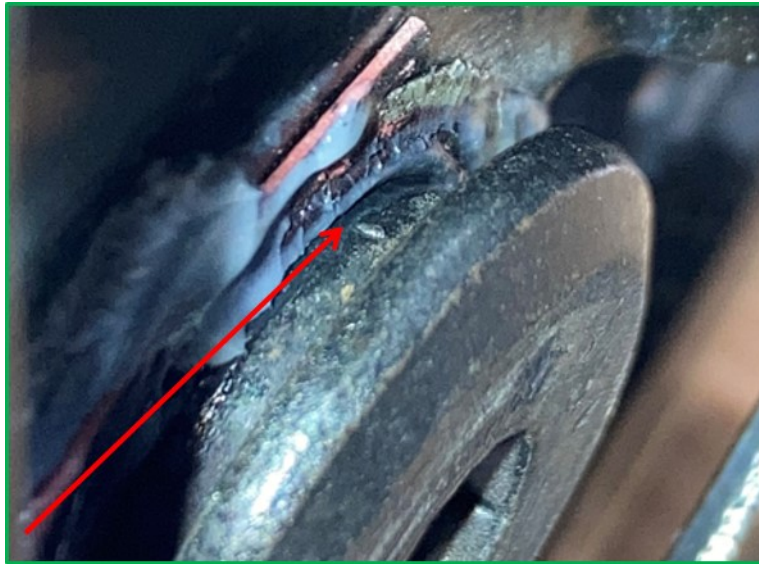

Fig. 7
9. Ensure shoulder of bolt is guided through inside of bushing. (Fig. 7)
15. Ensure shoulder of bolt is guided through inside of bushing. (Fig. 7)